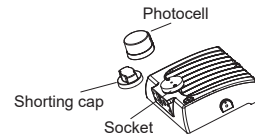

figure 6.5
- Attention: When the photocell function is required, photocell should be installed on the back of light: When it's not required, shorting cap should be installed on the back of the light (Figure6.5)